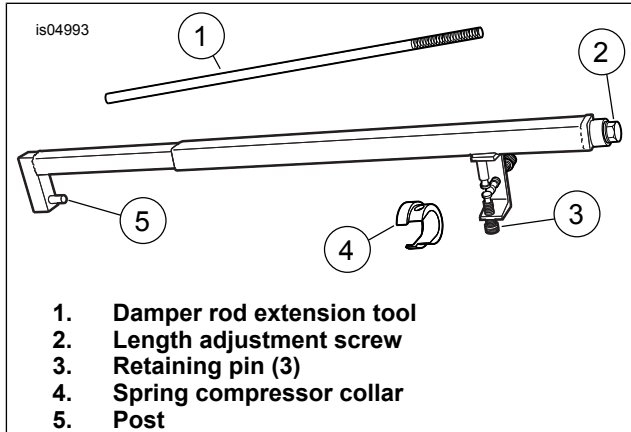
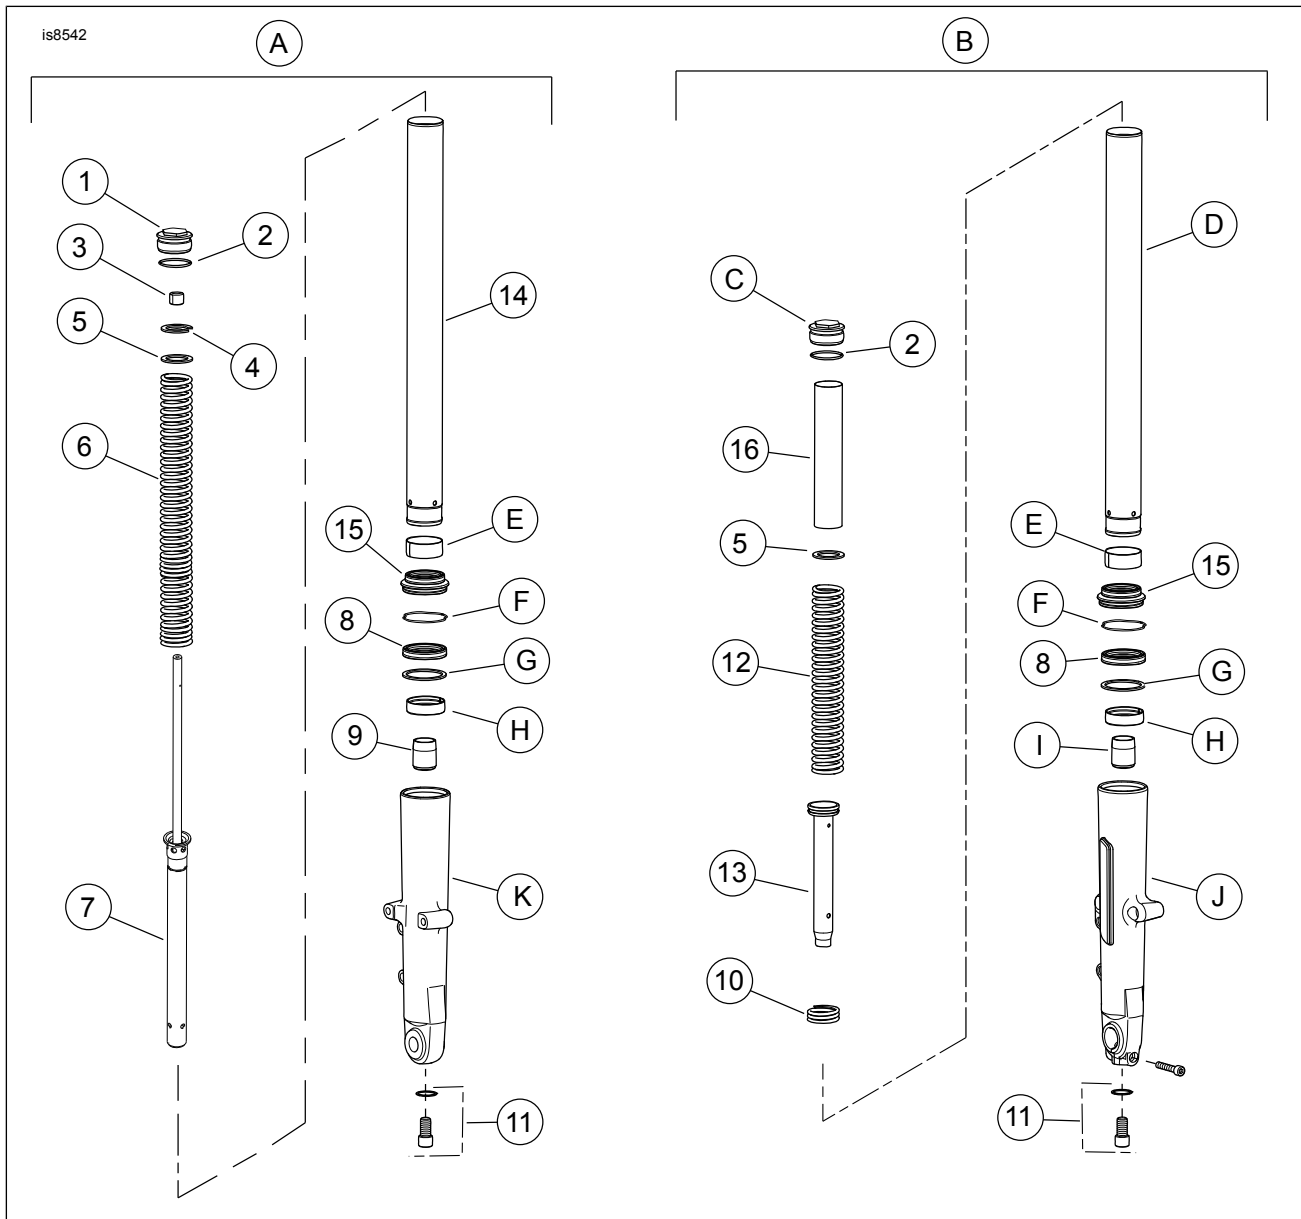

Figure 4. Fork Spring Compressing Tool (HD-45966)
Figure 7. Service Parts: XL Standard Cartridge Front Fork Kit
Refer to Figure 7 for the following procedure.
20. See Figure 4. Install fork spring compressing tool:
- a. Clamp tool in vise in a vertical position with length adjustment screw (2) upward.
- b. Place hole at bottom of fork slider over post (5) at bottom end of tool.
- c. Place flat washer (Item 5, Figure 7), over the damper rod extension tool and on top of spring. Place spring seat (Item 4, Figure 7), concave side up, on top of the flat washer. With the smaller OD upward, place spring compressor collar (item 4, Figure 4) over spring seat and flat washer.
- d. Adjust tool as necessary until three retaining pins (3) engage blind holes in spring compressor collar (4). Turn length adjustment screw counterclockwise to lengthen and clockwise to shorten.
23. See Figure 7. Install **new** jamnut (3) with non-threaded end over the damper rod first. Thread onto damper rod until it bottoms out on the shoulder.